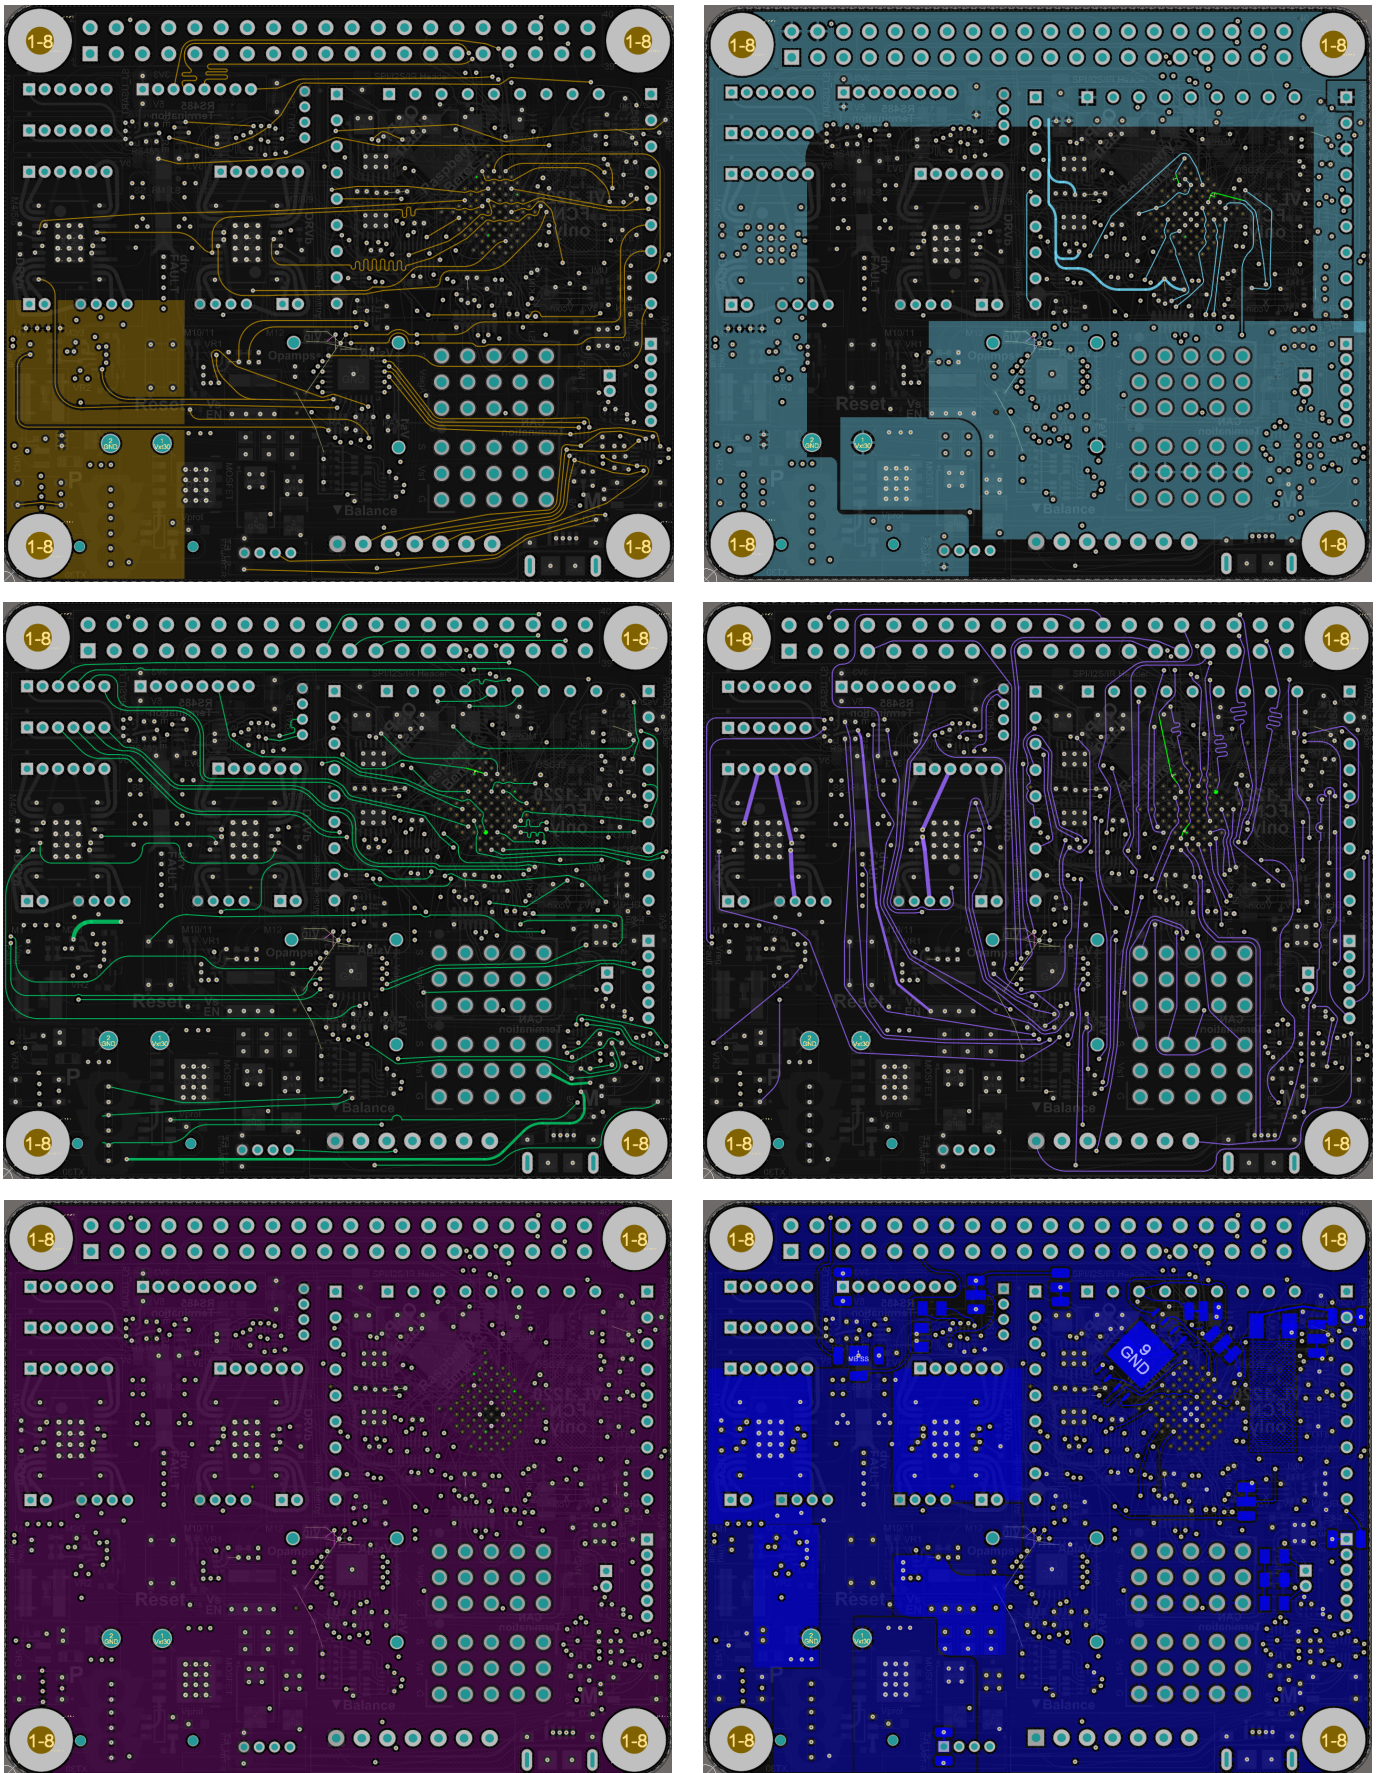

Figure 5.17: Layout of layers 3 through 8 of the **Raspberry** Beret (continued from previous page).
- primarily N-S traces were isolated on layers 6 and 8 (see, e.g., the purple traces of Layer 6 in Figure 5.17), while
- primarily E-W traces were isolated on layers 3 and 5 (see, e.g., the green traces of Layer 5 in Figure 5.17).
3. Matched-length traces were used, on each layer, for the parallel traces associated with clocked high-speed communication channels (e.g., MOSI, MISO, SCK), as illustrated, e.g., by the extra wiggles of the purple traces in the NE corner of Layer 5 in Figure 5.17.